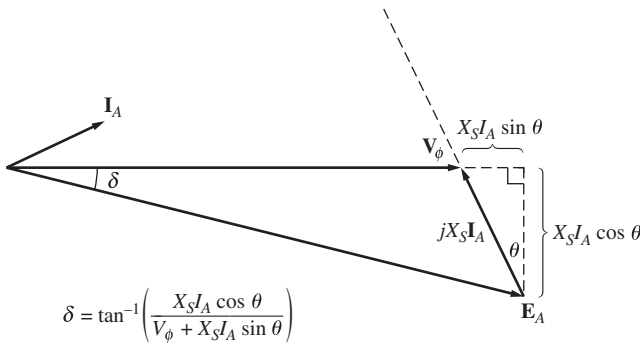

FIGURE P6-2
- 6-9. Figure P6-2 shows a synchronous motor phasor diagram for a motor operating at a leading power factor with no R_A . For this motor, the torque angle is given by